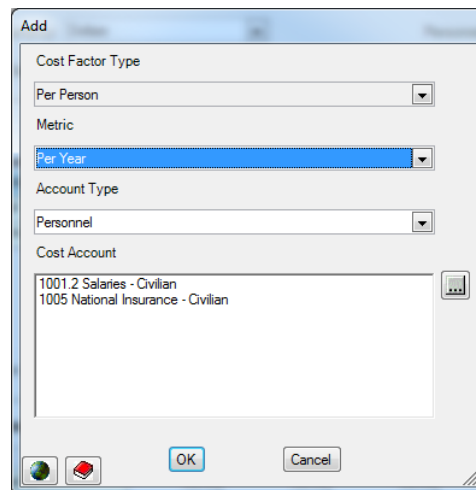

Figure 5-45. Add Window (Personnel Costs)
- Right-click and choose **Add** from the shortcut menu. The window shown in Figure 5-45 will open.